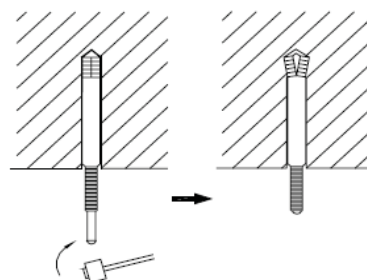

Figure 3-1-28
- (3) Insert the anchor bolts into the drilled holes, and drive the pins completely into the anchor bolts with a hammer. (Figure 3-1-28)